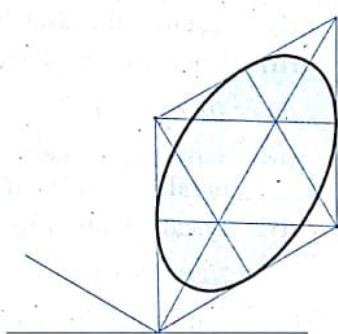

FIG. 6.12 (f)
4. Taking centres  $P$  and  $Q$  and radius,  $r$  draw one fourth arcs of ellipse with each centre as shown in figure 6.12 (d).